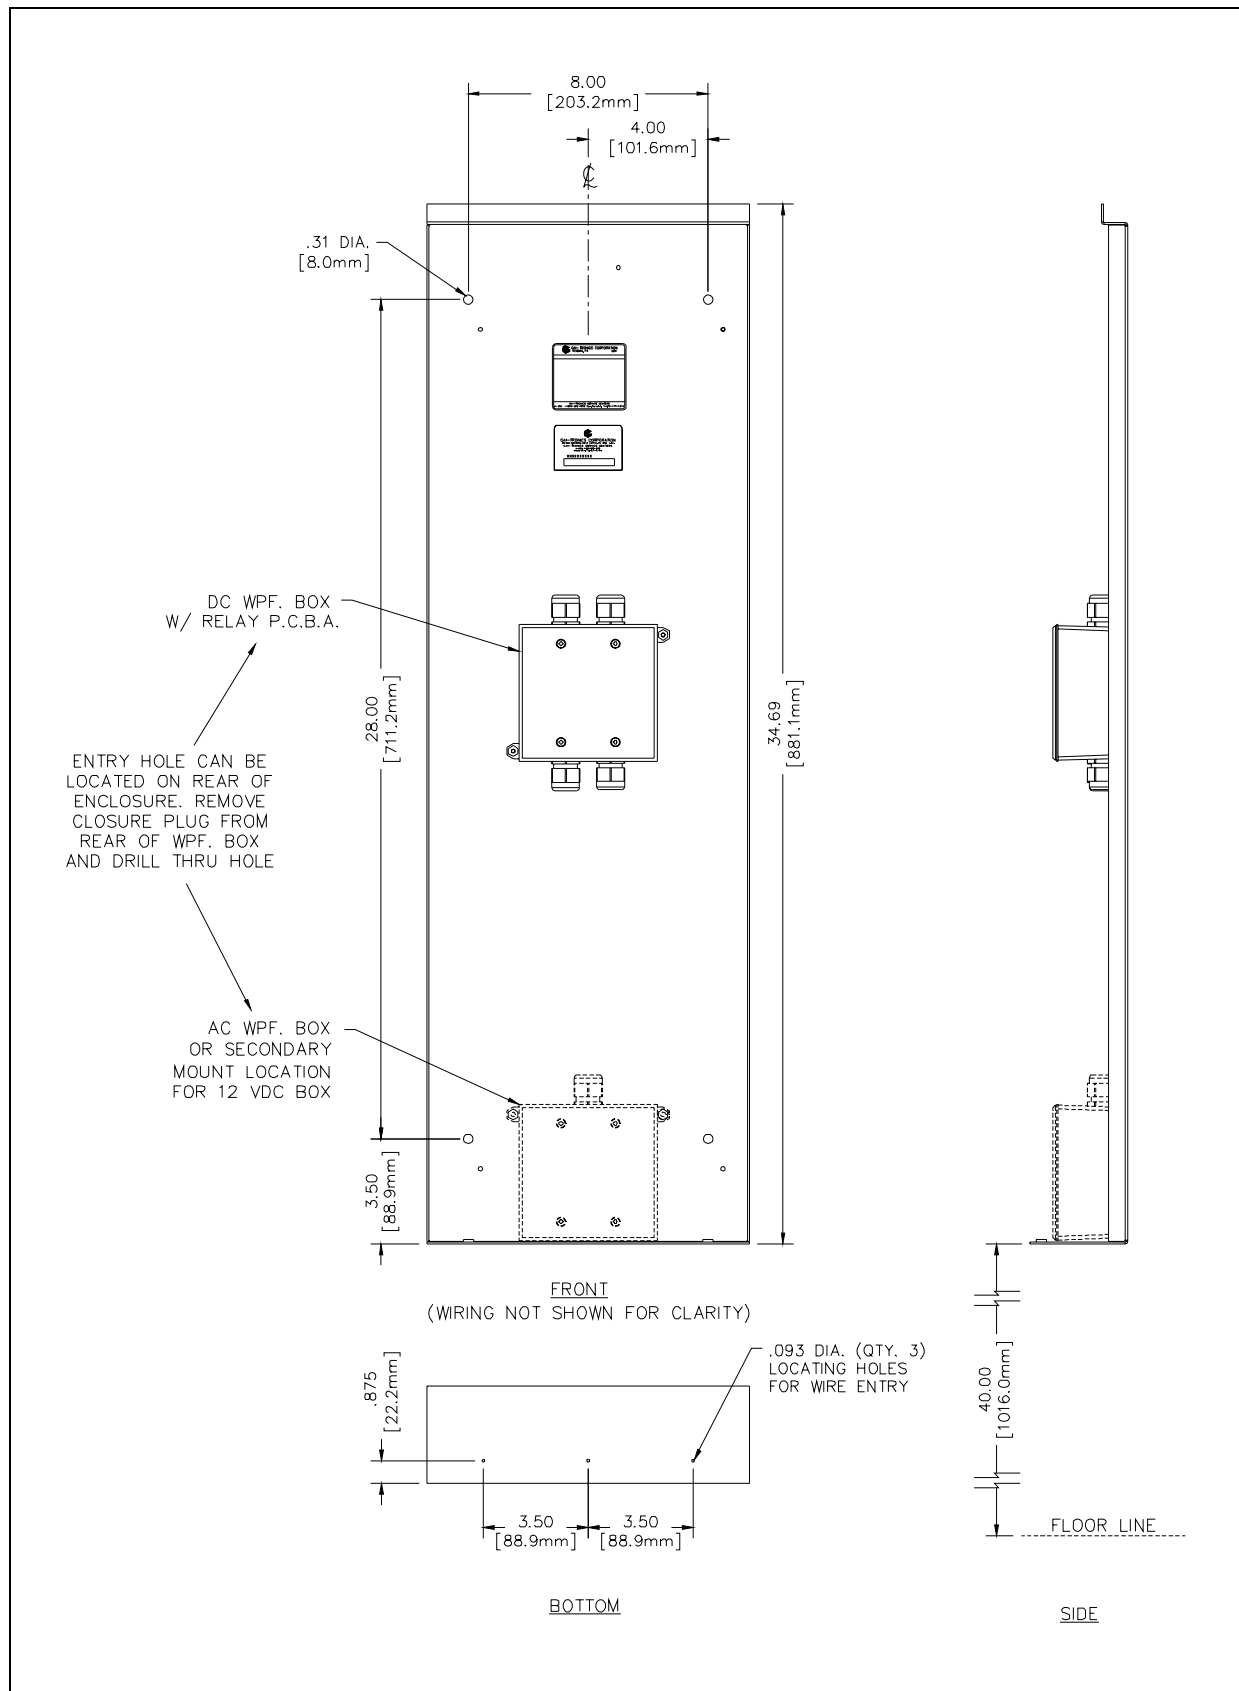

Figure 4. Mounting Detail
1. Fasten the mounting plate to a wall or flat surface that can support at least 25 pounds, using 1/4-inch bolts and fender washers (customer supplied) for attachment. Refer to Figure 4 for mounting hole dimensions and suggested mounting height.
2. Determine the method of routing the external power cable into the stanchion. The external power cable can be routed to enter the stanchion through the bottom or the back of the mounting plate. Refer to Figure 4.